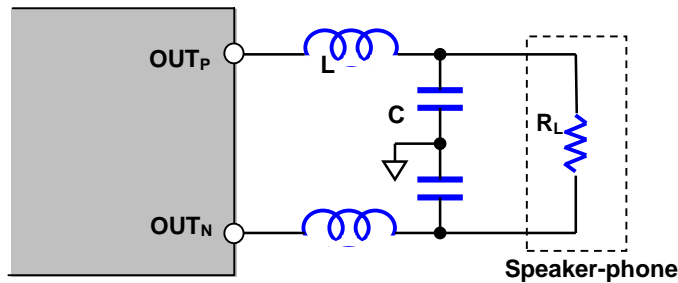

Figure 2 BTL Connection
Figure 2 shows an example of the BTL (bridge-tied-load) connection, where the OUT_P and the OUT_N terminals are connected at both ends of a load.
The carrier frequency of the output signal is about 300[kHz]. A secondary or higher LC low-pass filter is required to reject higher-frequency harmonics beyond the audio band. And that filter is composed of a coil (L[H]) and a capacitor (C[F]), which values should be chosen in consideration of a load impedance. The L and C values, shown in Figure 2, are given by the formulas (3) and (4), where the frequency in between 25kHz and 50kHz is used as the cutoff frequency (F_{CL} [Hz]) and the value $1/\sqrt{2}$ as the quality factor (Q).